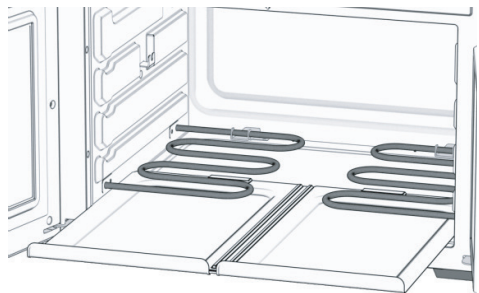

Figure 1
- Slide the crumb tray into the bottom of the inside of the appliance (below the heating elements; see Figure 1).